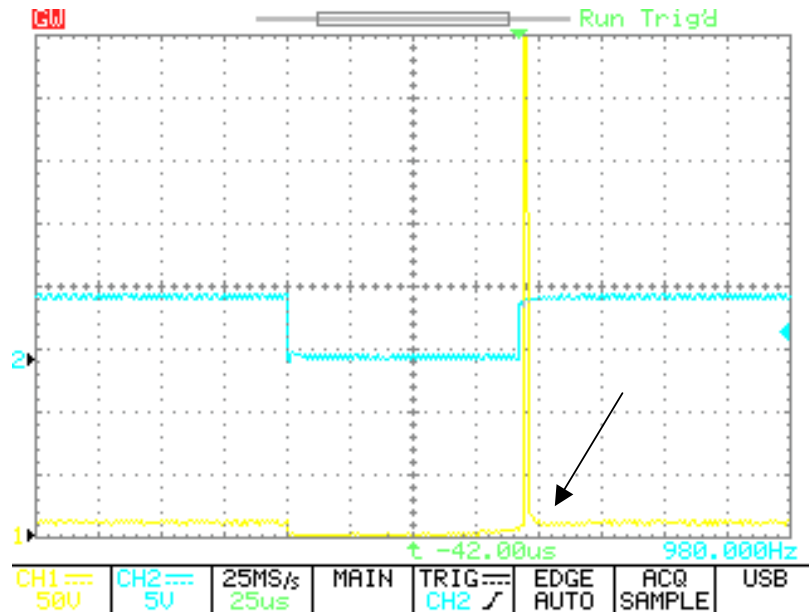

Figure 13 TX pulse & Reflective pulse
"TX pulse" comes from the μC , which control the time the dc current flows through the coil. Q1 amplifies the current from the weak μC pin, which can sink more current. When the "TX pulse" stops, the collector gets high impedance, and L3 returns a reflective pulse (counter electromotive force). R6 loads the coil, so the reflected pulse doesn't make "ringing" pulses after the big reflective. Q3 is a high voltage transistor, which can handle up to 1500V on the collector, and has not build in diode. The coil is turned around a CD with 0.5mm wire. The voltage across the coil has to be regulated, else the reflected pulse can move a little. If the voltage across the coil gets to high, there will come some pulses inside the "TX pulse" time. In figure 13 the reflective pulse (1) and charging (2) pulse is showed. The reflective pulse amplitude is about 500-700V when the supply to the coil is 9.6V. The interesting point is where the pulse starts to flatten off. If R6 weren't present, there would be some peaks in that area. The pulse comes 1000 times in a second, to reduce power the samples can be limited, but if the output of the amplifier has to be integrated a lot of sample is needed to get at god result.